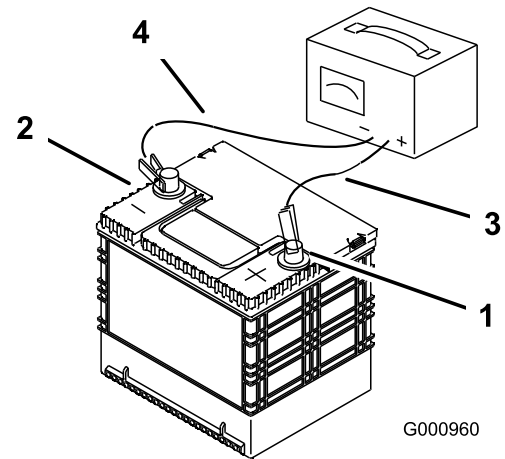

Figure 54
2. When the battery is fully charged, unplug the charger from the electrical outlet, then disconnect the charger leads from the battery posts (Figure 54).